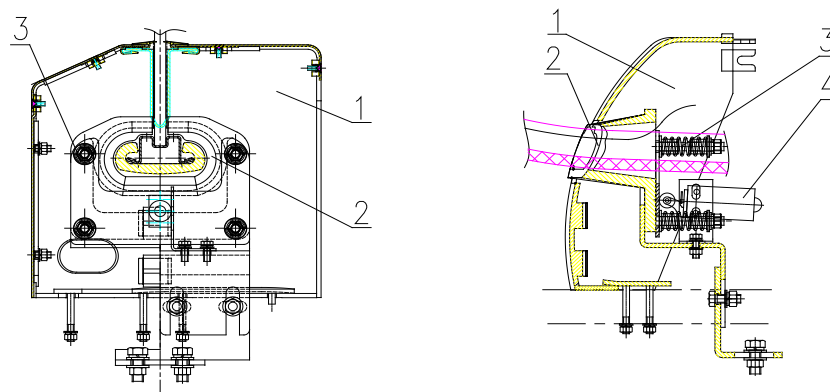

Figure 26 Finger protection switch
10.5.4 The handrail inlet in the upper and lower parts are equipped with finger protective switches (refer to Figure 26). When a foreign object or a child's hand comes into the handrail entry, the protection switch will be actuated to bring the escalator to a stop. After the faults is removed, the handrail will resume its original position under the action of spring 3.